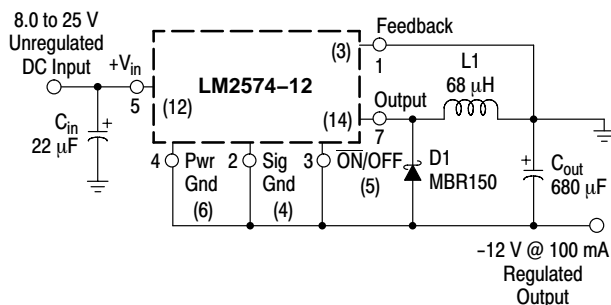

Figure 27. Inverting Buck–Boost Develops –12 V
An inverting buck–boost regulator using the LM2574–12 is shown in Figure 27. This circuit converts a positive input voltage to a negative output voltage with a common ground by bootstrapping the regulators ground to the negative output voltage. By grounding the feedback pin, the regulator senses the inverted output voltage and regulates it.
**NOTE:** This picture does not show the complete circuit (see Figure 27).